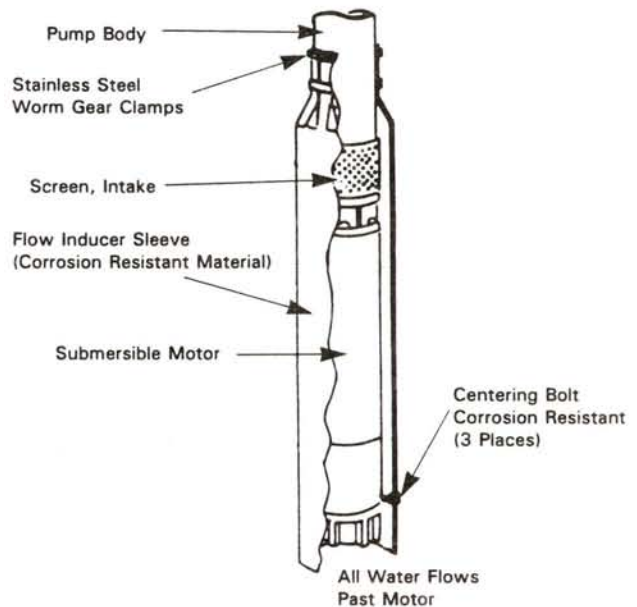

Figure 12
- A flow inducer sleeve is a tube over the motor, closed off above the pump intake and extended to the bottom of the motor or lower. The sleeve material is corrosion resistant metal or heavy plastic (See Figure 12).